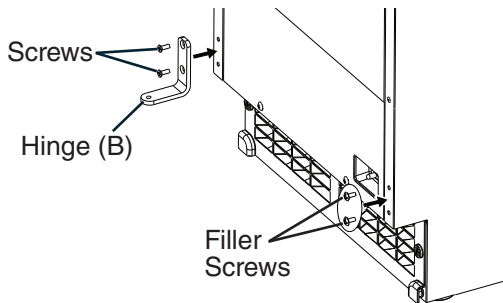

Fig. 13
- Remove hinge (B) from the right side of the unit and the 2 filler screws from the left side. Attach the 2 filler screws to the right side and attach hinge (B) to the left side. See Fig. 13.